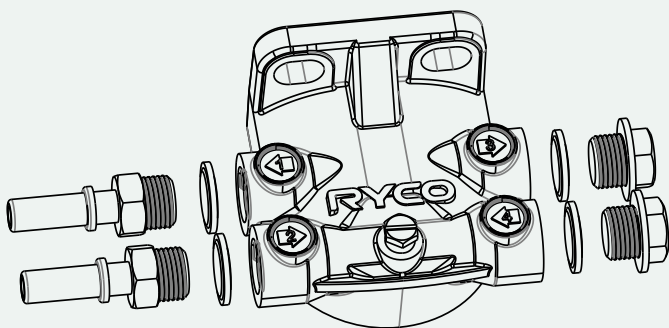

FIGURE 2
- 3 Install the Ryco fuel water separator head with metal quick connectors MS4096A, blanking plugs and rubber bonded washers, as per Fig 2. Tighten blanking plugs (on Port 3 & 4) and quick connectors (on Port 1 & 2).